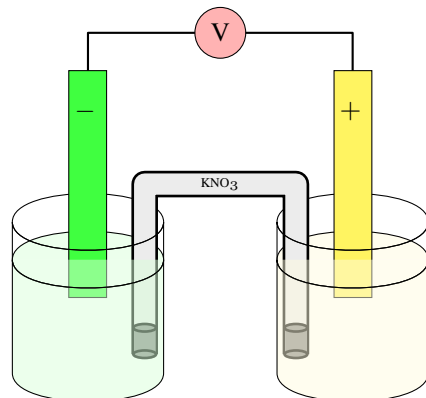

**Figure 8.2** The Daniell galvanic cell
**Figure 8.2** A galvanic cell with a hydrogen anode and a copper cathode. The hydrogen electrode is the reference electrode with null electrodic voltage. Hence the voltage of this cell will directly give the copper electrode voltage.